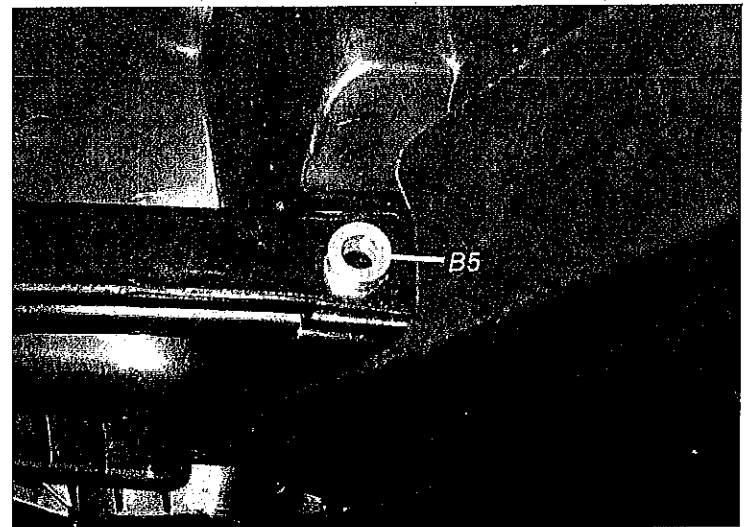

Figure 2 - Position Spacers
2. Place the 1/4" spacers (B5) into position over the floorboard bolt holes, figure 2.